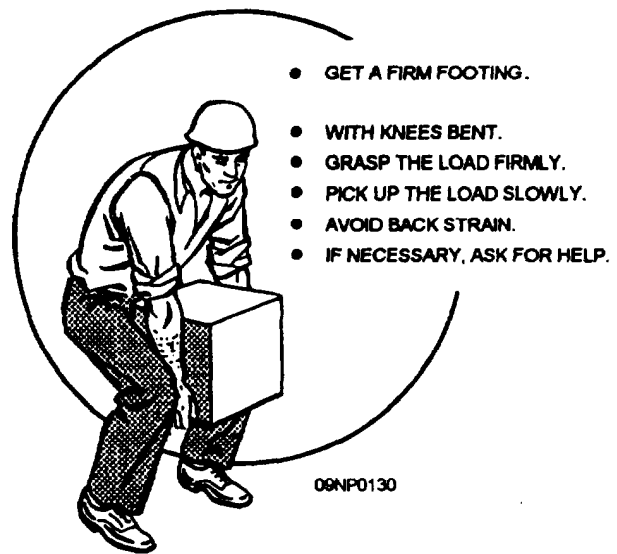

Figure 13-31.-Manual lifting.
- **Asphyxia and Poisoning**—During some cargo handling or related operations, asphyxia or poisoning may result from: (1) lack of oxygen, (2) poisonous gases or fumes, or (3) exposing skin or eyes to or swallowing petroleum products. (Some vapors may be swallowed without the knowledge of the victim.) An individual showing signs of asphyxia or poisoning should receive immediate medical attention and the cargo officer should be notified. The space should be inspected before work is continued.
- **Lifting Cases**—There is a right and a wrong way of picking up heavy cases of material. The correct method of lifting heavy objects is illustrated in figure 13-31. Individuals stand close to the load, with their feet slightly apart and solidly placed. With knees bent, they grasp the object firmly and lift it by straightening their legs, keeping the back as vertical as possible. When lifting from an elevated position, keep the object close to the body.